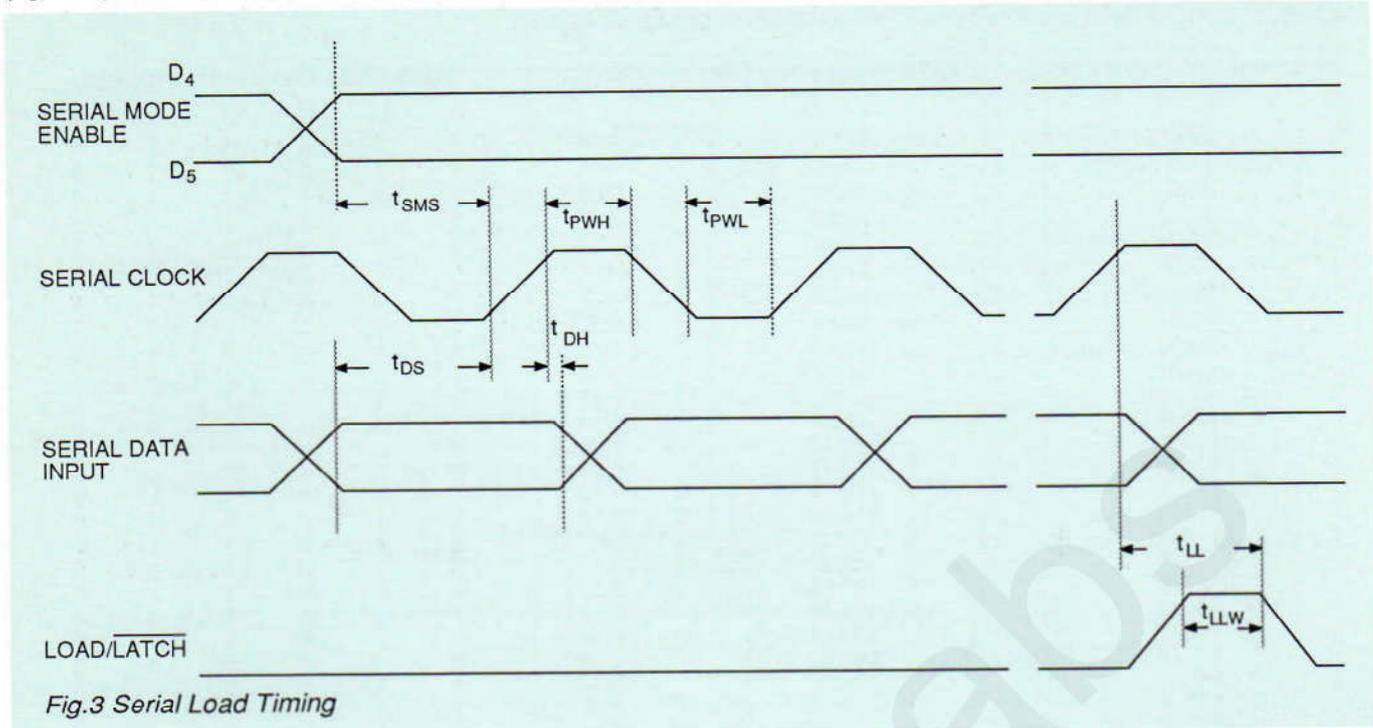
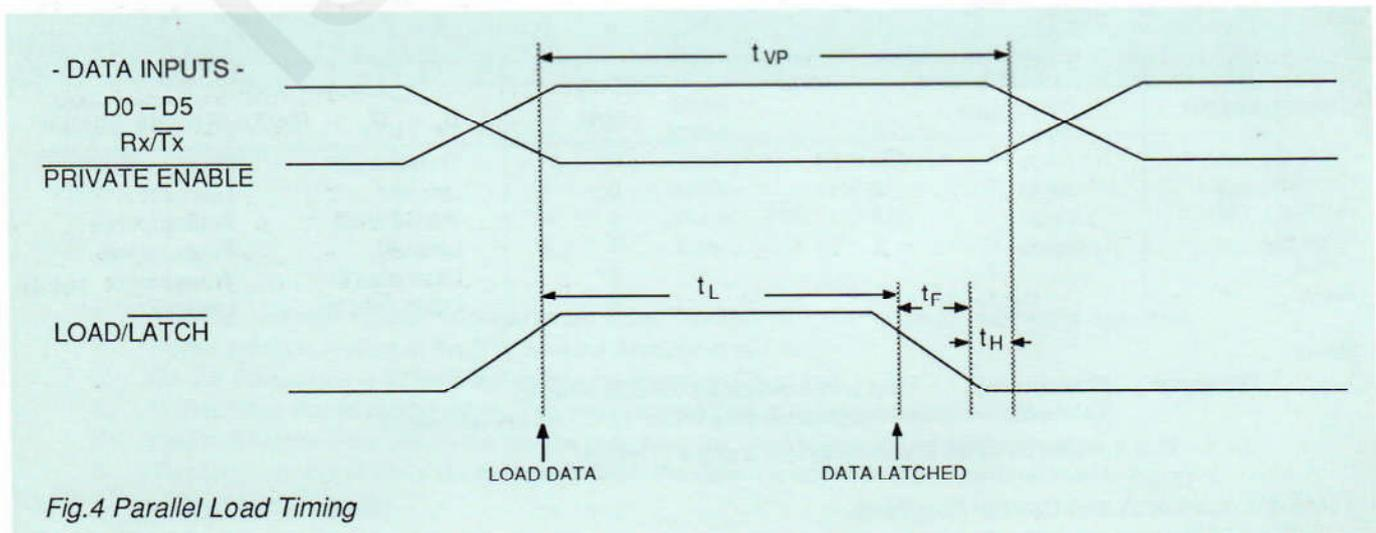

Fig.3 Serial Load Timing
Fig.4 Parallel Load Timing
'0 - 1 - 0' is a strobe pulse as shown in figures 3 and 4 (Timing).
**Timing Information .....** Control instructions are input to the FX375 by serial (figure 3) or parallel (figure 4) means, using Data Inputs and Load/Latch as shown in the diagrams below.
**Serial Loading Sequence :** With Load/Latch at logic '0' serial data is loaded in the sequence :-  $D_5, D_4, D_3, D_2, D_1, D_0, Rx/Tx, Private Enable$ . When these 8 bits have been clocked in on the rising clock edge, data is latched by strobing the Load/Latch input - "0-1-0" (Figure 3).